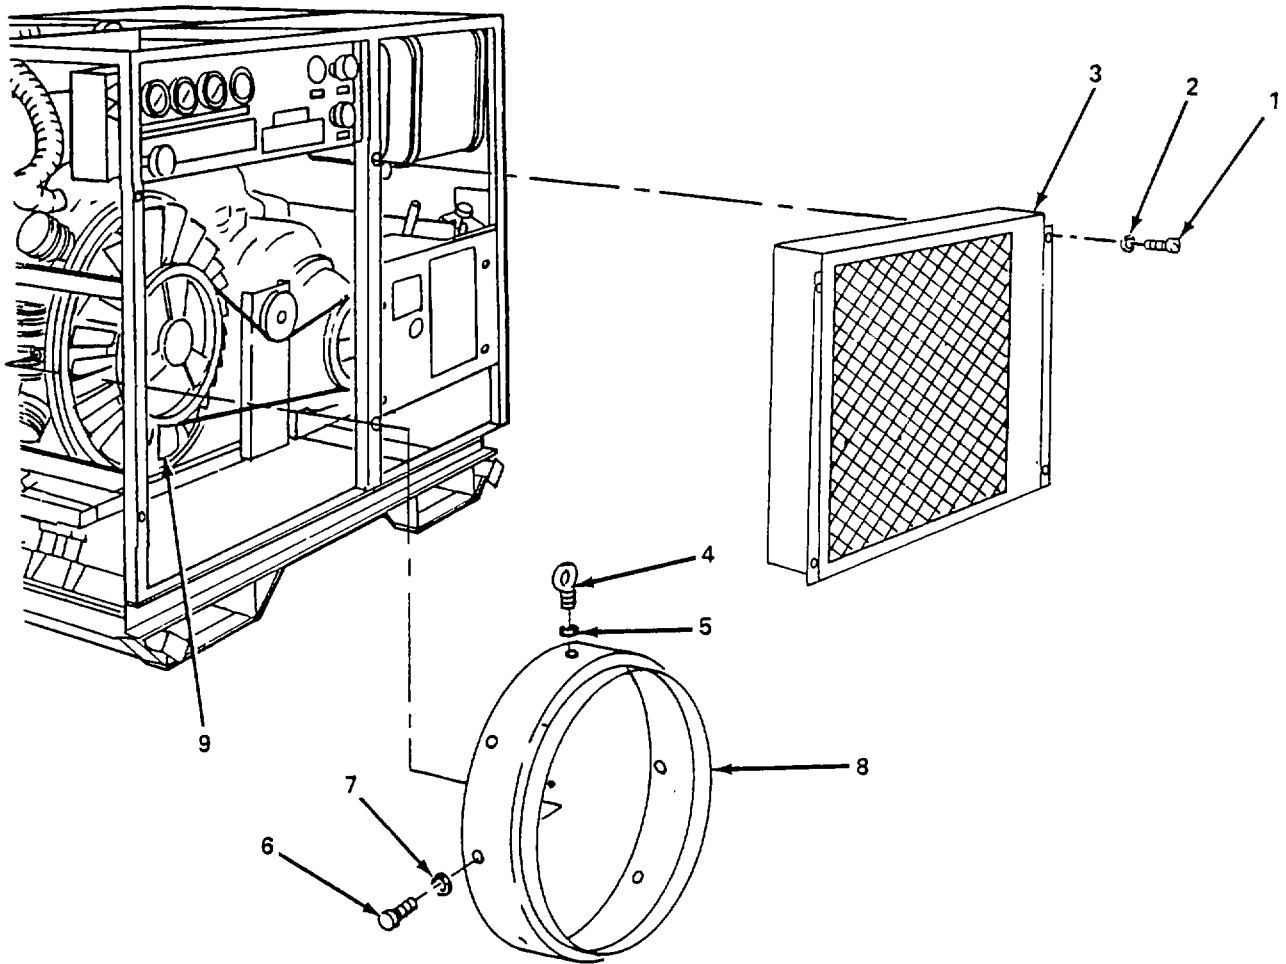

Figure 4-24. Air Compressor Assembly, Service (Intercooler).
- (2) Intercoolers. (figure 4-24)
- (a) Remove six screws (1) and washers (2) and remove beltguard (3).
- (b) Remove eye bolt (4) and washer (5).
- (c) Remove four bolts (6) and washers (7) and remove fanwheel guard (8).
- (d) Clean intercoolers (9) of all dirt.
- (e) Install fanwheel guard (8) and secure with four washers (7) and bolts (6).
- (f) Install washer (5) and eye bolt (4).
- (g) Install beltguard (3) and secure with six washers (2) and screws (1).